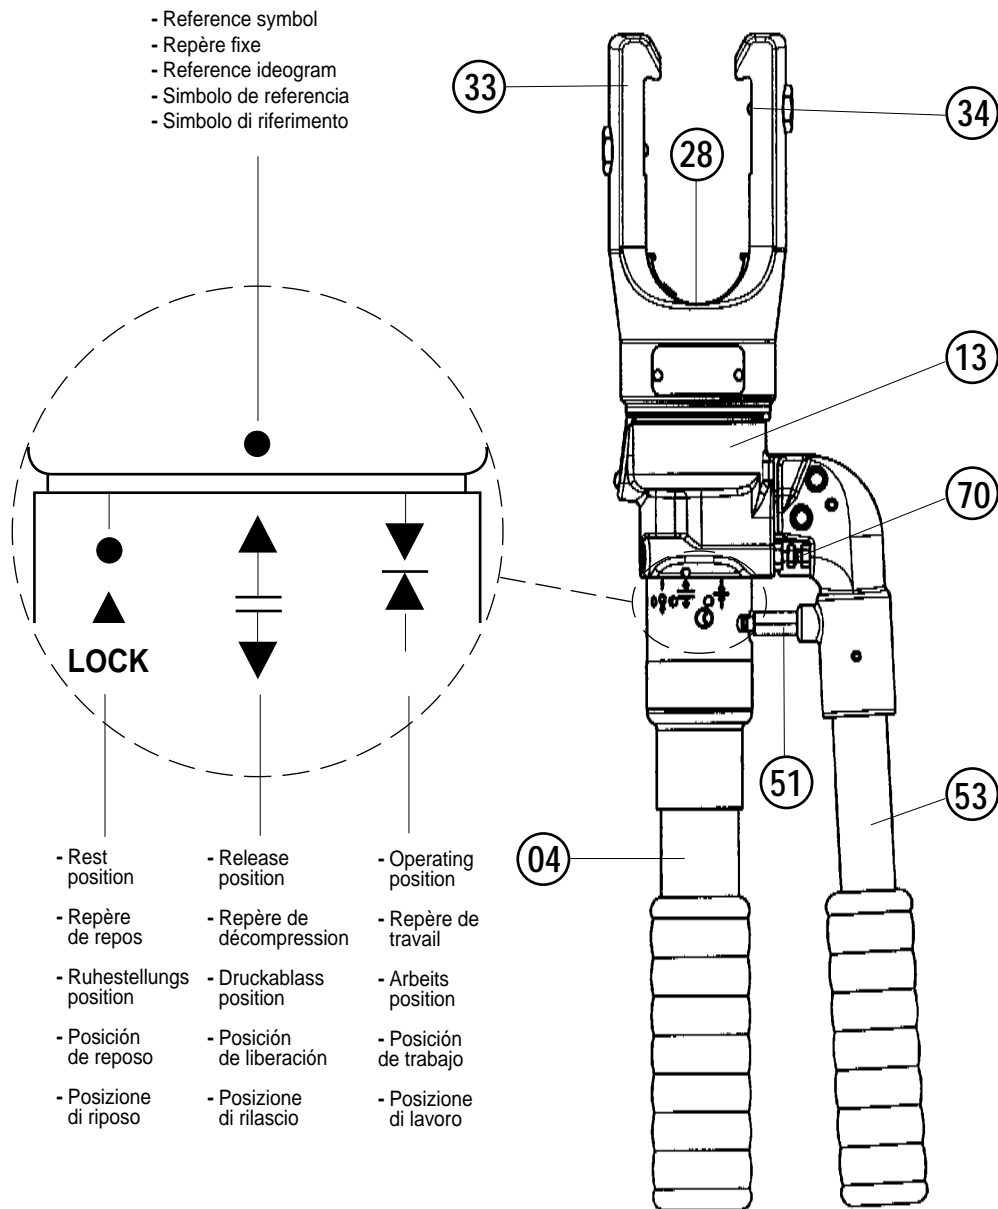

FIG. 1 OVERALL VIEW
3. INSTRUCTIONS FOR USE (Ref. to Fig. 1, 2 and 3)